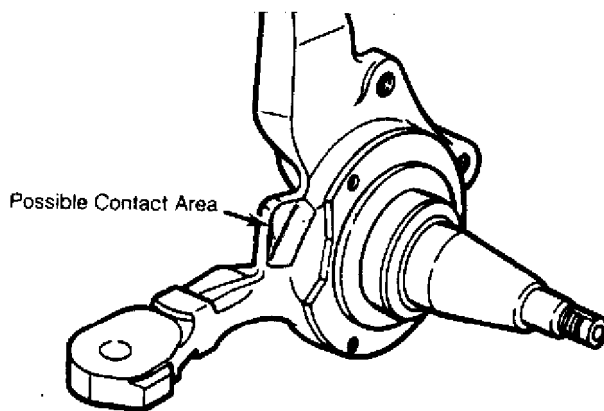

Fig. 3: Grinding Steering Knuckle
**NOTE:** Replacement steering knuckle may contact brake disc in area indicated by arrow in illustration. See Fig. 3. Grind down steering knuckle casting 5/16-3/8" (8-10 mm) to provide clearance.